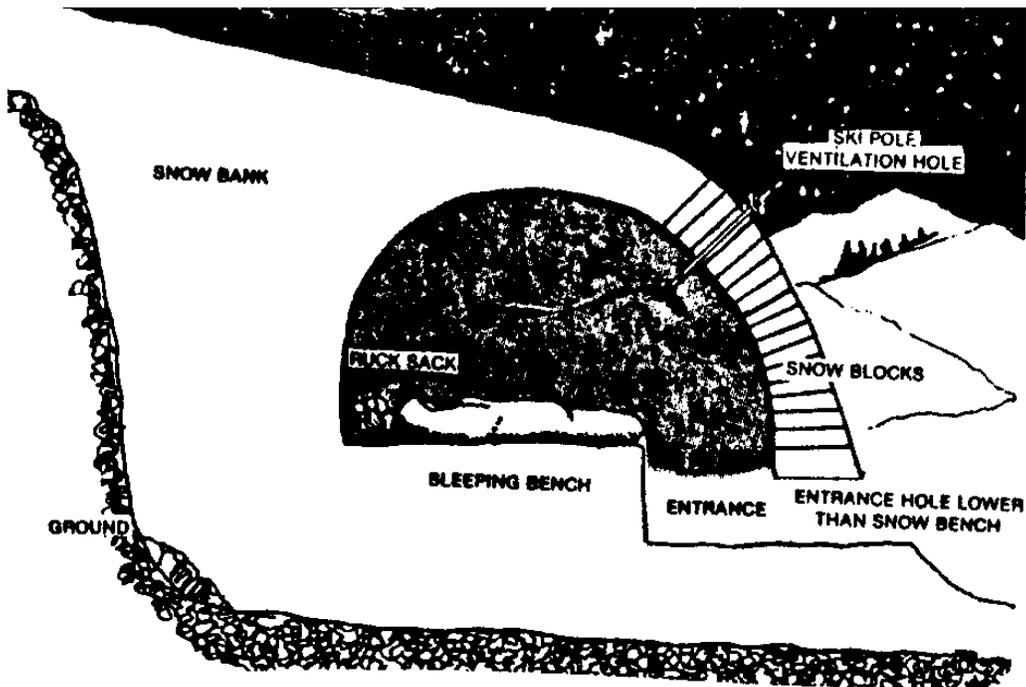

Fig. 6-8 Block and Cave Method
B. Once the snow hole is completed and the sleeping benches and stove position determined, the cave can be sealed with snow blocks. These are best cut during the last stages of excavation as the snow is usually more densely packed inside a drift. Using snow blocks from this area reduces the amount of snow moving. (See Figure 6-8)